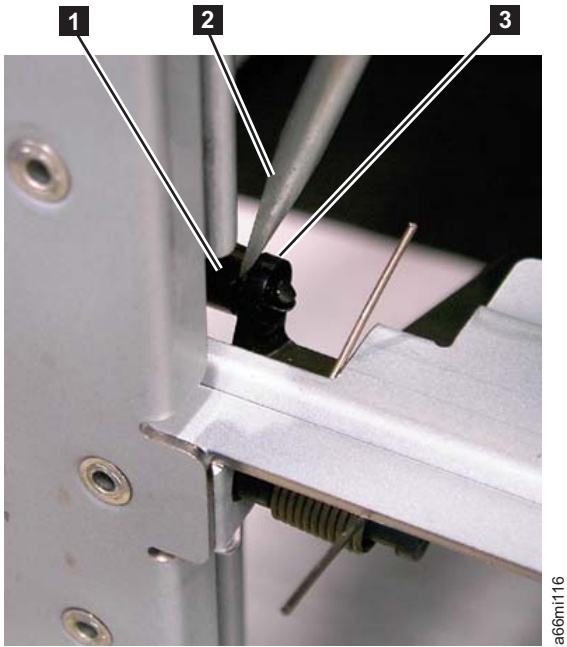

Figure 8-30. I/O Safety Flap Link
4. Disconnect the plastic link (**1** in Figure 8-30 on page 8-32) from the bottom flap (**3** in Figure 8-30 on page 8-32). Use a small screwdriver (**2** in Figure 8-30 on page 8-32) to pry the link out of the hole in the bottom flap.